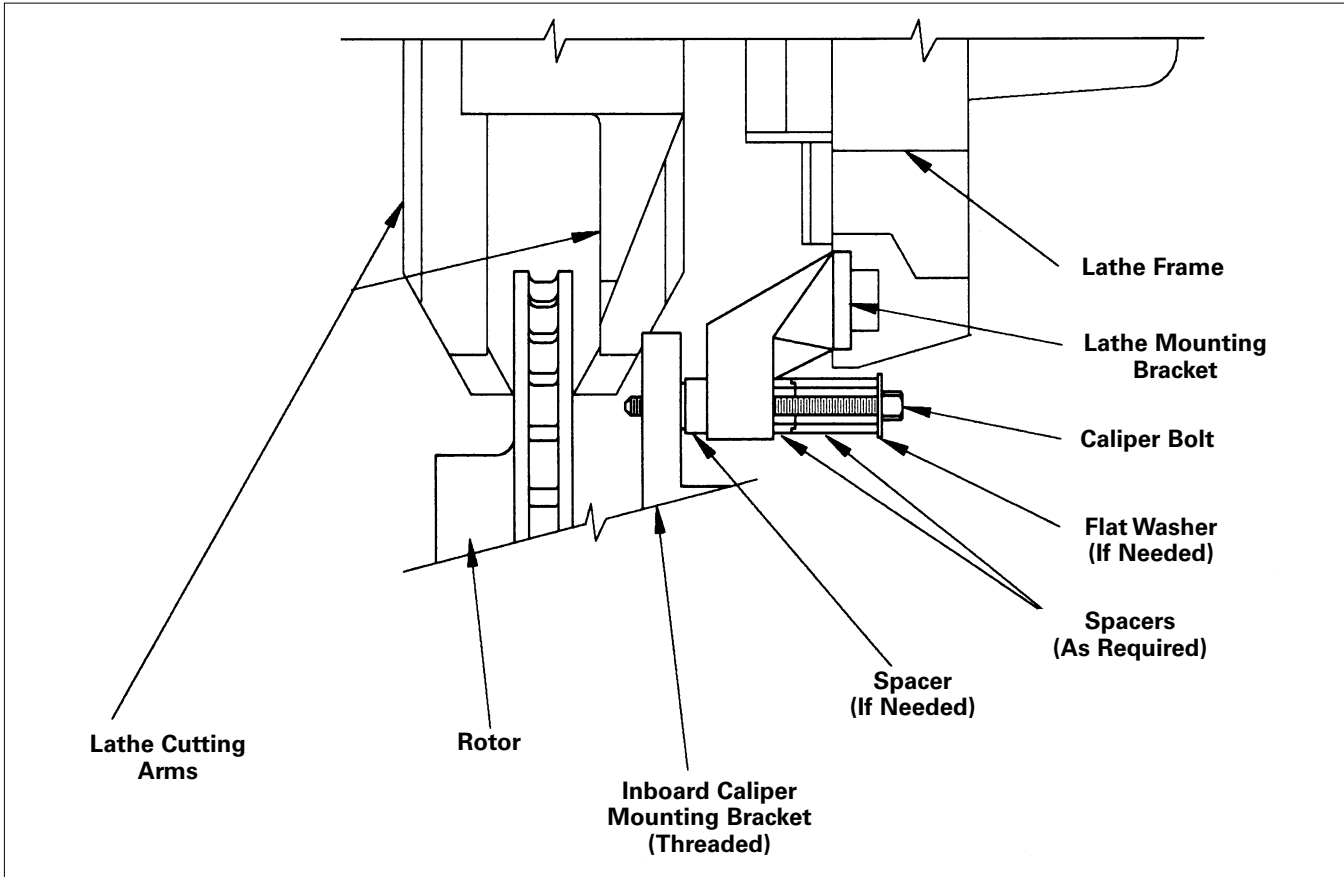

Figure 9
**Note:** Use Figure 9, to assist during installation of the brake lathe using the vehicle's caliper bolts.